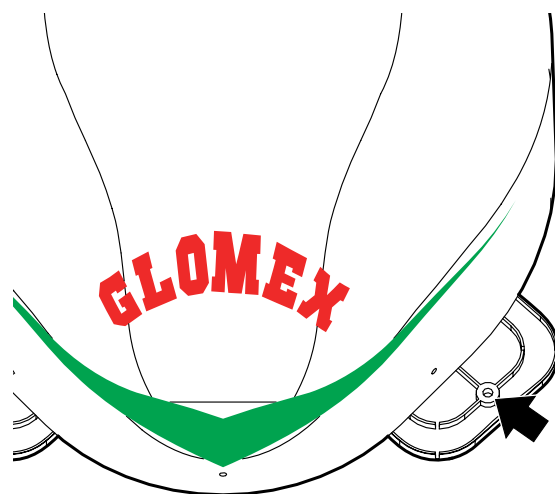

Fig. 9
6. OPTIONAL OPERATION: drill the plates with an 8 mm drill tip and fasten the antenna to the roof with the appropriate through screws (**Fig. 9**).